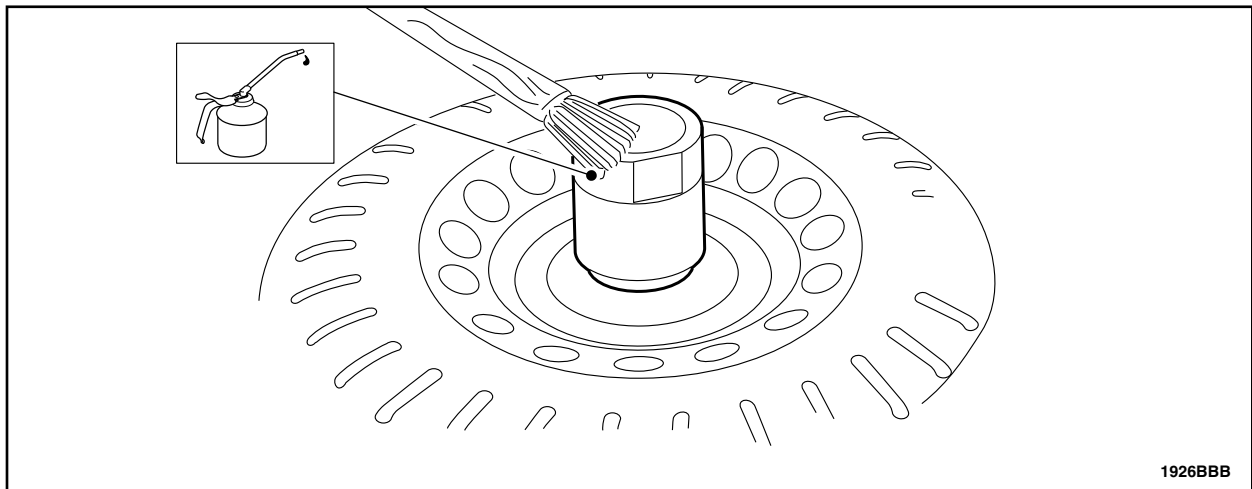

FIGURE 50
48. Lubricate the converter hub with automatic transmission fluid. See Figure 50.